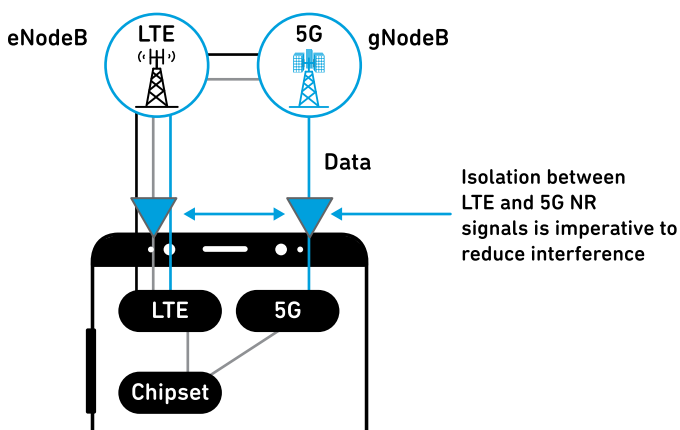

FIGURE 3-7: LTE and 5G NR CA.
5G radio access network (RAN) is designed to work fully with the existing 4G LTE network. The 3GPP Release 15 standard allowed multiple NR deployment option such as non-standalone (NSA) and standalone (SA). For more information on NSA and SA, please read Qorvo's *5G RF For Dummies* book at www.qorvo.com/design-hub/ebooks/5g-rf-for-dummies. NSA utilizes a scheme very similar to CA. It combines an LTE anchor band for control and a 5G NR band to deliver faster data rates, as shown in Figure 3-7. NSA is a model of deployment where 5G services are provided without an end-to-end 5G network. This is where EUTRA plus NR dual connectivity is introduced. In EN-DC, both LTE and 5G NR carriers are used simultaneously. With EN-DC, two high-power RF signals are transmitted from one device. This